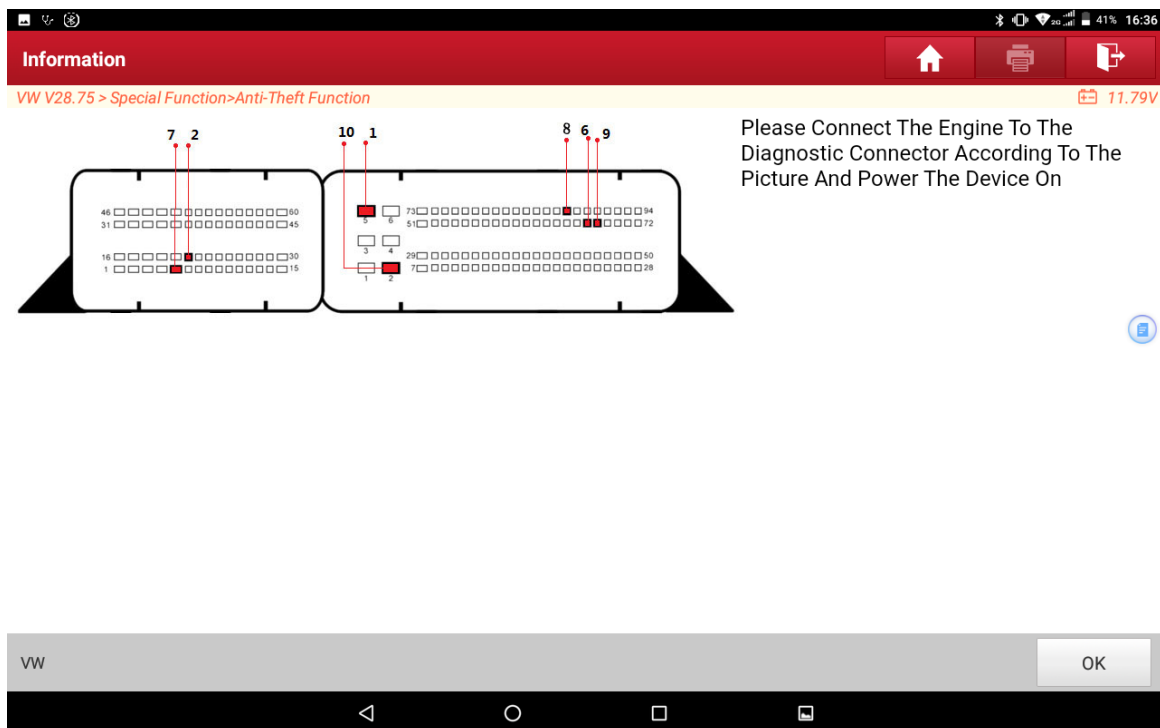
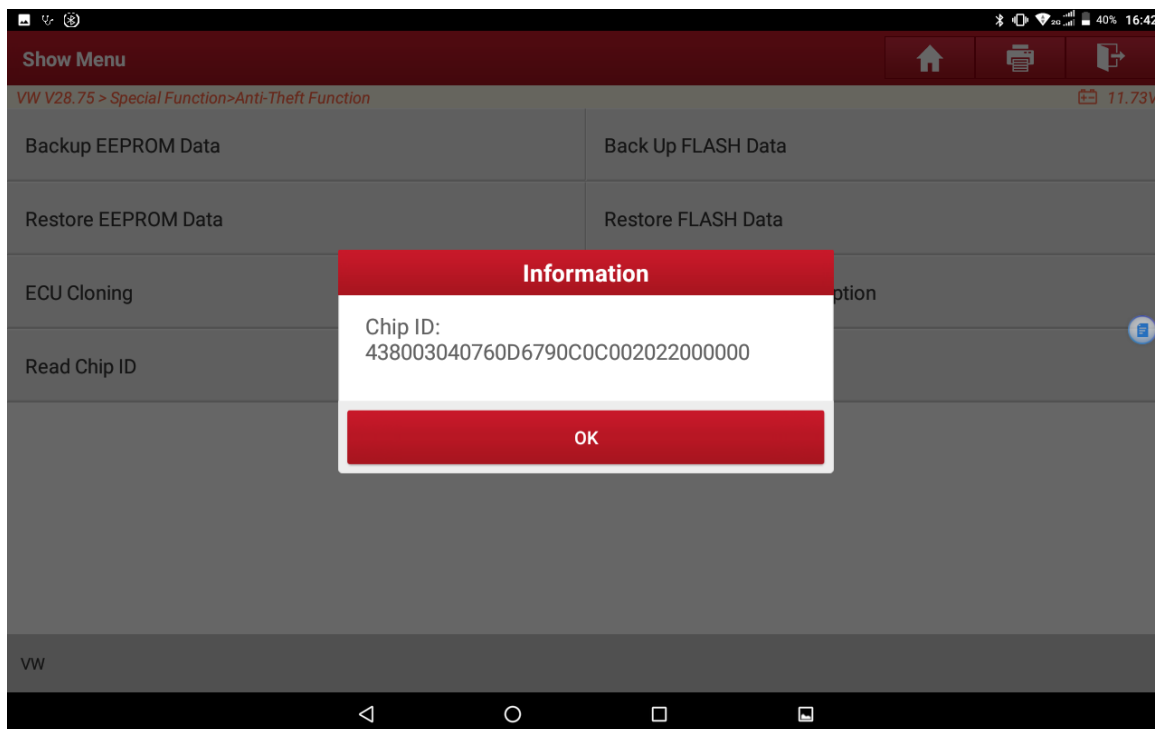

Figure 3
Figure 4
3. Click **【View Wiring Diagram】** menu to display the wiring diagram of this engine, as shown in Figure 3; Connect the Immobilizer programmer to the original engine ECU according to the wiring diagram, and check if the wiring diagram is correct by clicking **【Read Chip ID】** , as shown in Figure 4;